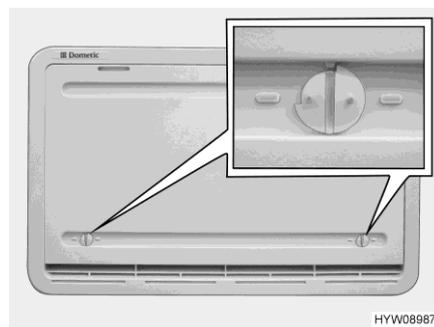

Fig. 163 Winter cover
Winter cover If the refrigerator is to be operated at low external temperatures, the manufacturer recommends the use of a winter cover (Fig. 163) for the refrigerator ventilation grills.
- Open both locks (Fig. 163) (groove in horizontal position).